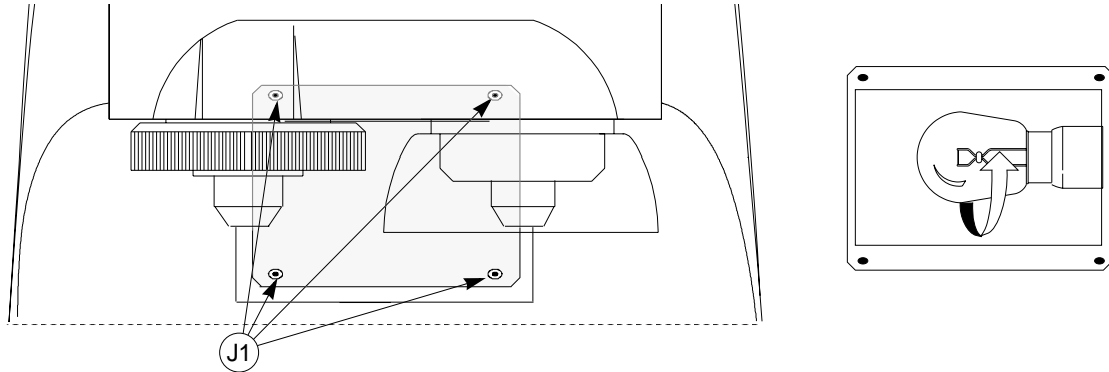

Fig. 25
- 2) remove the four screws (J1) which secure the glass cover (fig. 25).